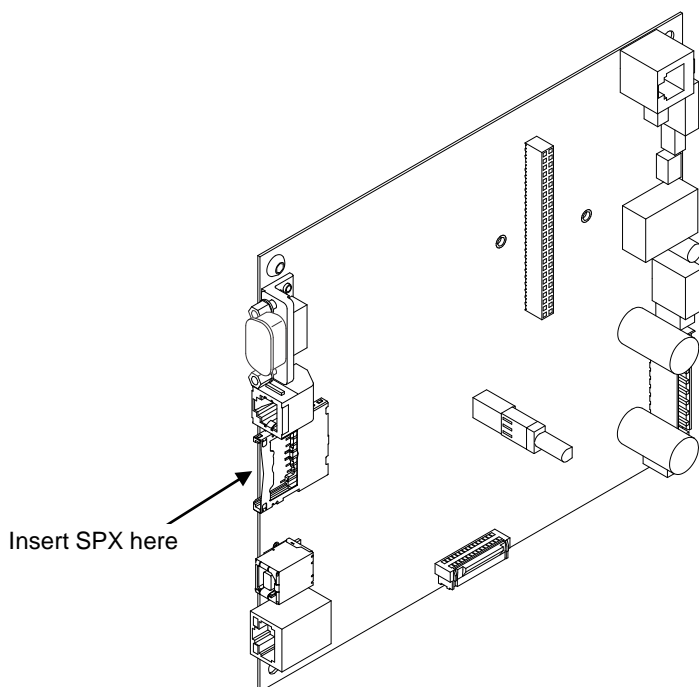

Figure 18 Inserting The SPX into the Debug Port
2. Refer to *Figure 18* to locate the debug port at the rear of the printer.